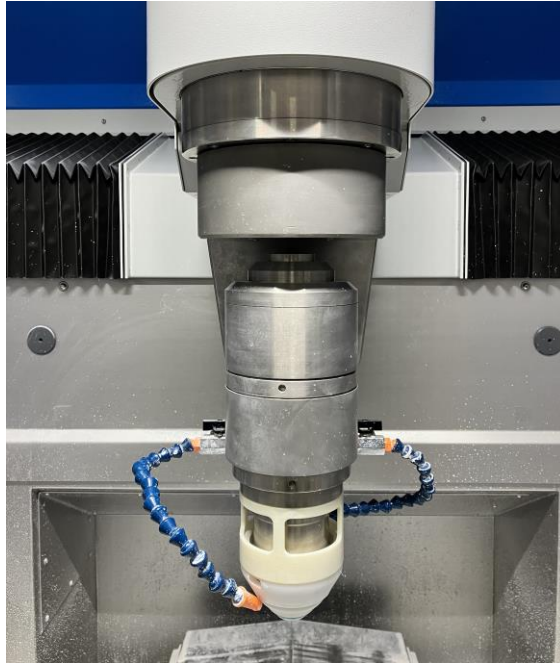

Figure 22 - A and B axis both referenced
- Once A and B have been referenced, select “ESC” then “RUN”. Ensure the “CNC Mode” switch is in auto mode and select the “HOME” program and push the Start button. The A and B axis should now look like... Figure 22 - A and B axis both referenced.